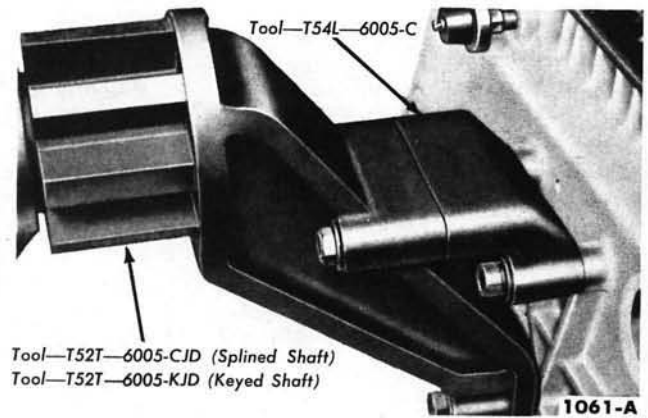

FIG. 9—Engine Mount
5. Attach the engine lifting hook (Fig. 7). Remove the engine right and left front support to frame bracket bolts. Lift the engine out of the engine compartment and install it on a work stand (Fig. 9).